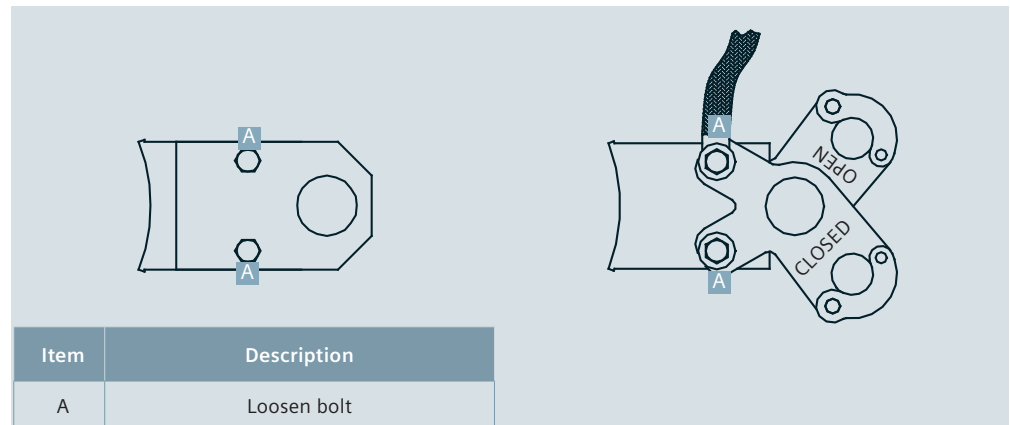

Figure 5: Loosen bolts
**Note:** The pipe guides and lock segment are adjustable. Loosen the bolts such that the pipe guides and lock segment can slide in the slots (refer to Figure 5: Loosen bolts).